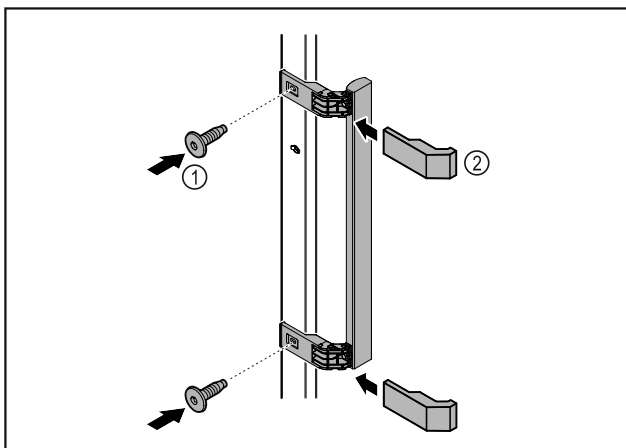

Fig. 44
- ▶ Attach handle from accessory kit to the door using the screws supplied Fig. 44 (1).
- ▶ Put on cover Fig. 44 (2).